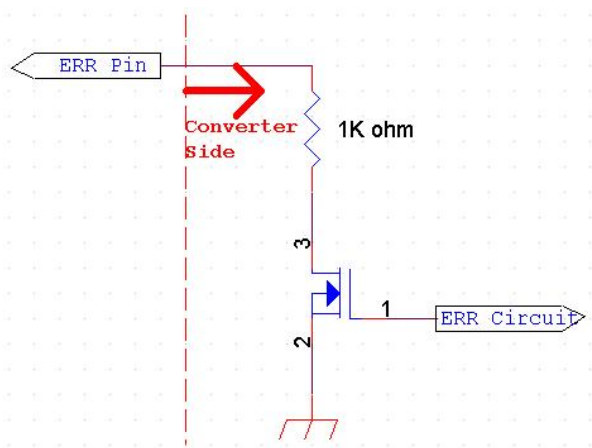

Fig. 2
Note (4) When converter protective function is triggered, ERR will output open collector status. Please refers to Fig.2.